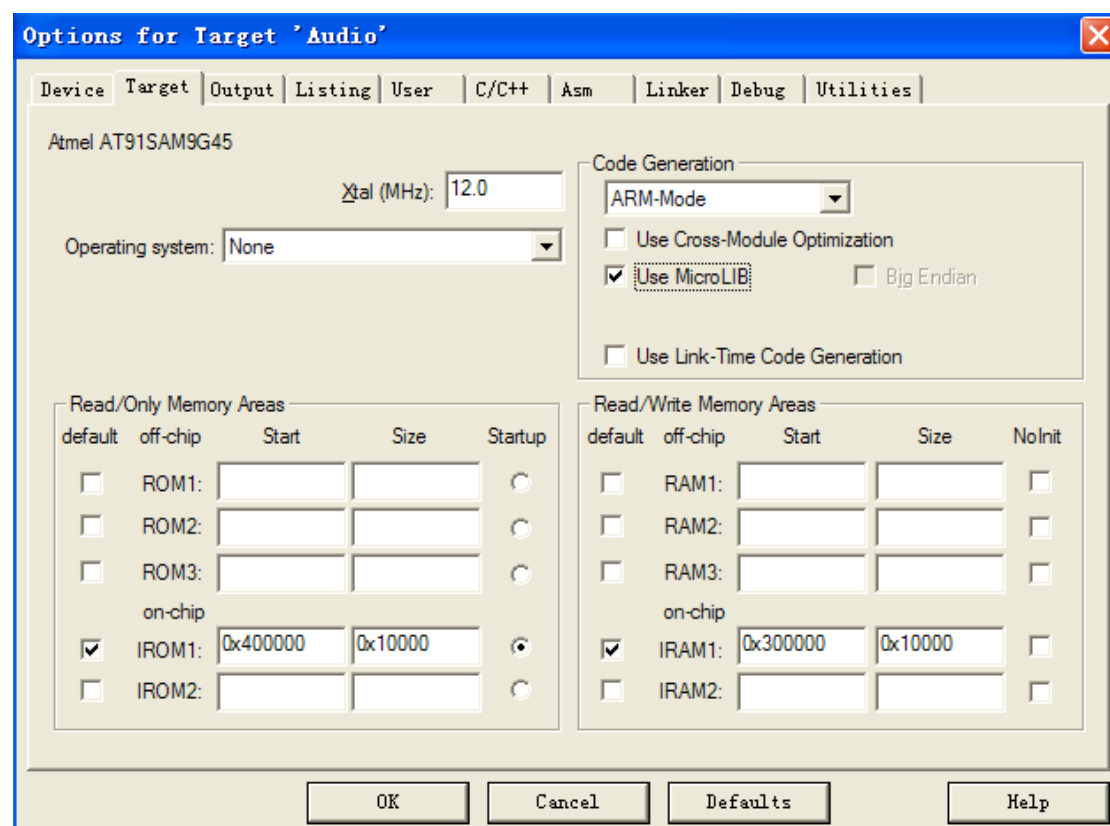

Figure 1-1 Target Tab
2) Click User tab in Figure 1-1, it is used to build .bin file, as follows: